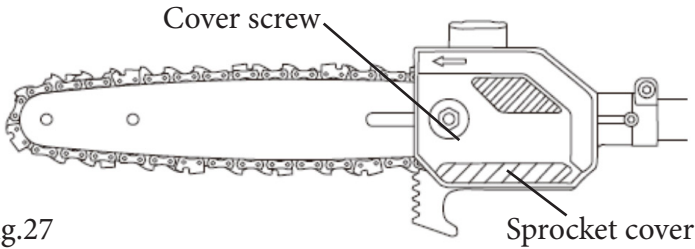

Fig.27
- c) Position the pole saw attachment on its side on a firm, flat surface, so that the chain-sprocket cover is facing upwards (Fig. 27).
- b) Loosening the cover screw. (Fig.27)